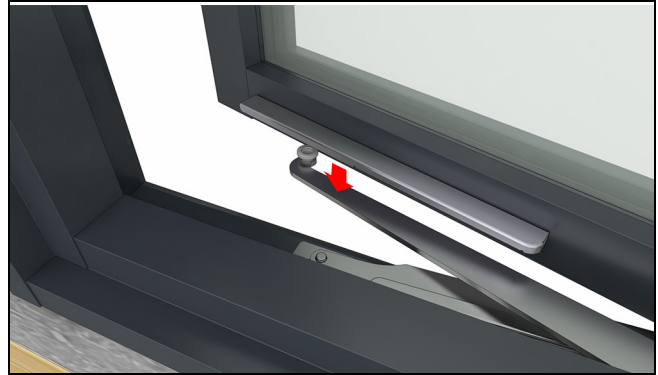
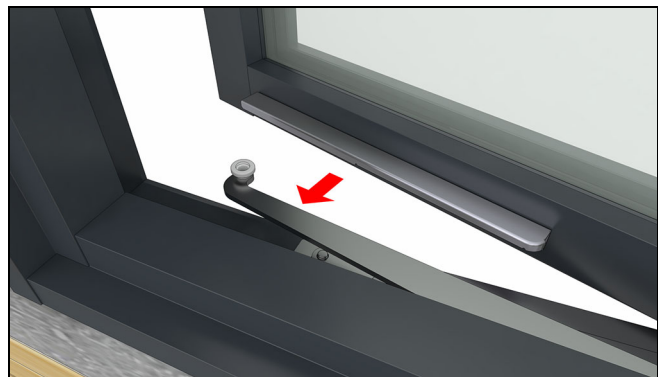

Figure 92
Figure 93
2. With a firm grip on the sash, detach the operator arm from the track by pushing the arm down. See Figure 92 and Figure 93. Crank the arm back to the frame.